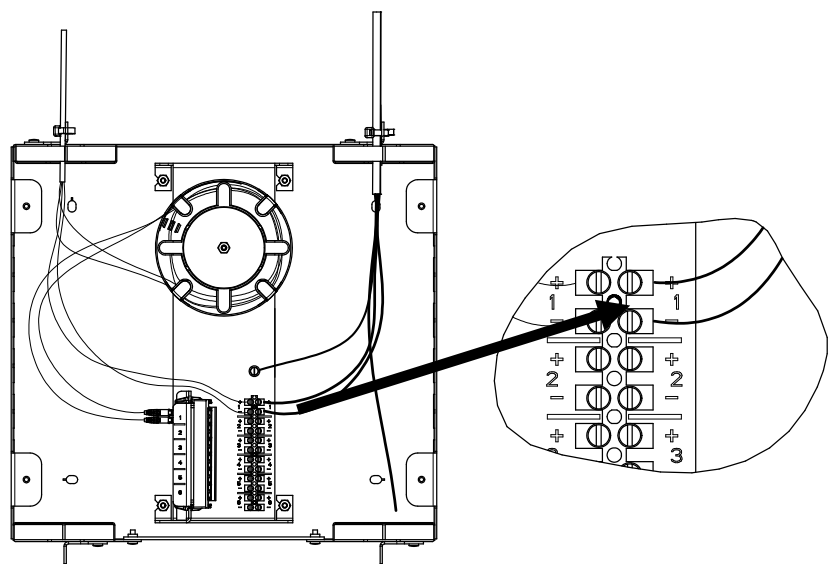

Figure 10
3. For the outgoing power termination repeat steps 3 – 5 from Section 6 Step 1, verifying any end device powered equipment wiring polarity with polarity connections on terminal strip, as shown in **Figure 10**.